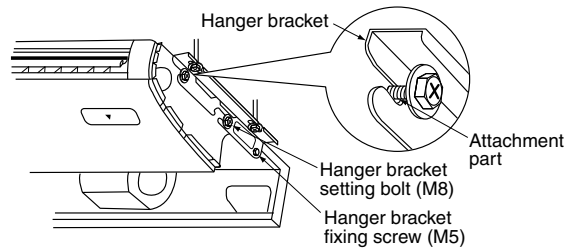

Fig. 11
- (2) Lift the indoor unit's main body, insert the bolts (M8) for the hanger brackets into the attachment part on the hanger brackets, while sliding the main body from the front. (Refer to Fig. 11)
- (3) Fasten the bolts for the hanger brackets (M8) securely in 4 places, left and right. (Refer to Fig. 11)
- (4) Replace the screws for the hanger brackets which had been removed (M5) securely in 2 places left and right. This is necessary to prevent any forward and back slide in the main body of the indoor unit. (Refer to Fig. 11)